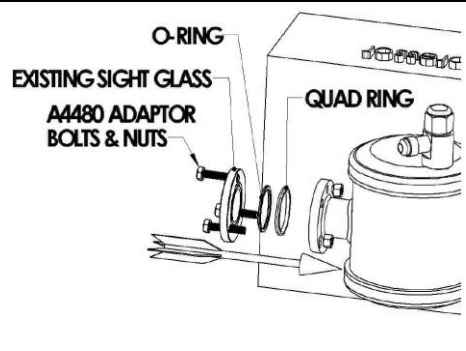

Figure 4: Compressor 3-bolt Sight Glass
4. For grooved 3 bolt sight glasses, position the standard quad ring into the oil regulator flange groove. A light lubrication of refrigerant oil on the quad ring will aid sealing (see Figure 4).
(5 ft-lbs). See Figure 4.